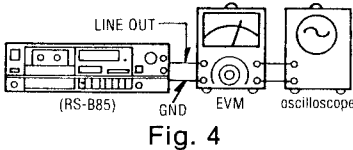

Fig. 4
1. Make connections as shown in fig. 4.
1. Test equipment connection is shown in fig. 4.